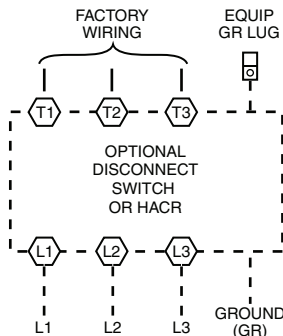

Fig. 40 — Power Wiring Connections
Size wire based on MCA (Minimum Circuit Amps) on the unit informative plate. See Fig. 40 for power wiring connections to the unit power terminal blocks and equipment ground. Maximum wire size is 2/0 AWG per pole.
3. Install power lines to terminal connections as shown in Fig. 40.